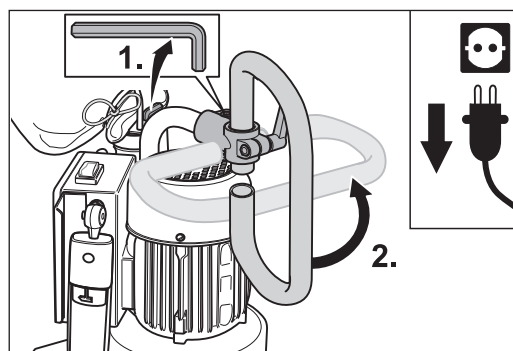

Fig. 18 Undo the screw on the angle clamping connector and rotate the angle clamping connector by 90°.
- 3 Use the enclosed Allen key to undo the screw on the angle clamping connector of the pipe bend and then rotate the angle clamping connector by 90° (Fig. 18).